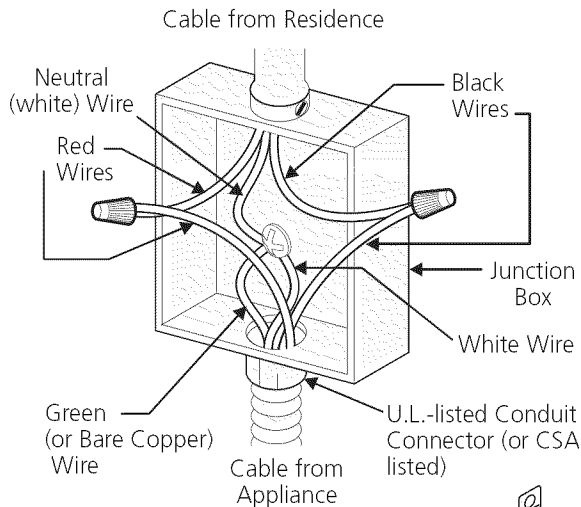

Figure 5
### Where local codes permit connecting the appliance-grounding conductor to the neutral (white) wire (see Figure 5):
3. In the circuit breaker, fuse box or junction box (Fig. 5):